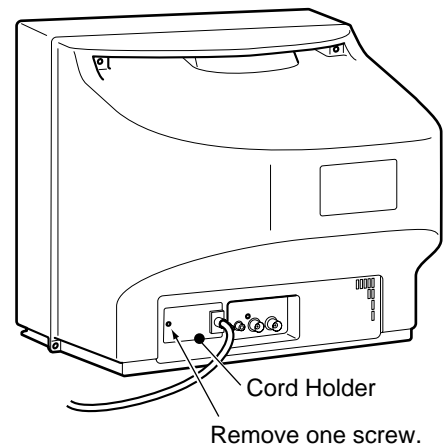

Fig. 2-3
- Referring to Fig. 2-3, remove one screw that secure the Cord Holder and remove the Cord Holder.